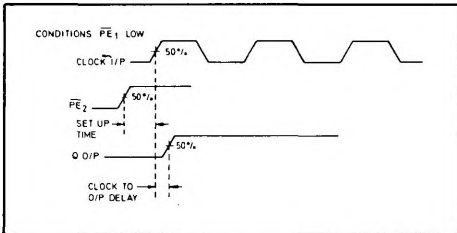

Fig. 3 Set-up timing diagram
- Set-up time is defined as the minimum time that can elapse between a L→H transition of a control input and the next L→H clock pulse transition to ensure that the ÷5 mode is forced by that clock pulse (see Fig. 3).